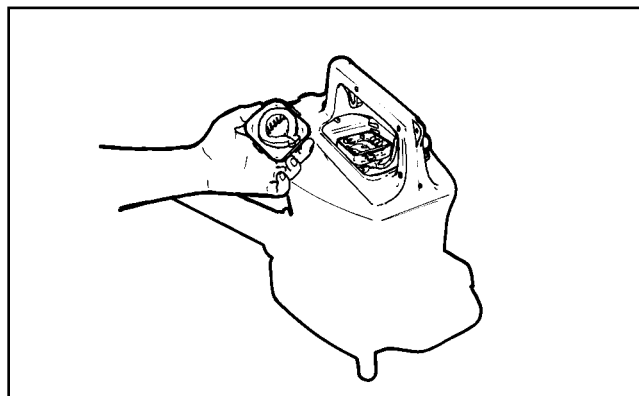

Fig. 28
6. Carefully reinstall the air filter. Be sure the filter is sealed properly before placing it on the air filter base (Fig. 28).